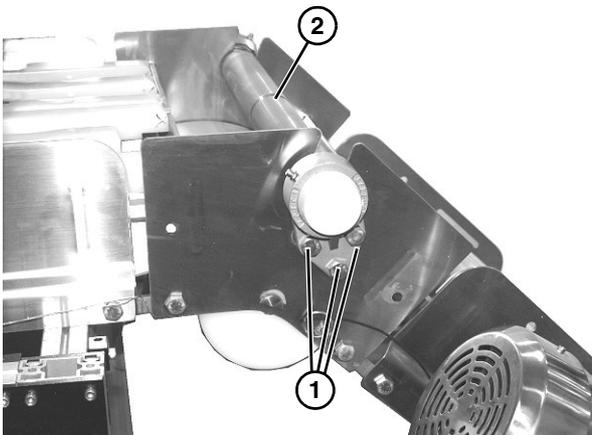

Figure 95
1. Remove three bolts (Figure 95, item 1) on each side, and remove spindle assembly (Figure 95, item 2) from knuckle.